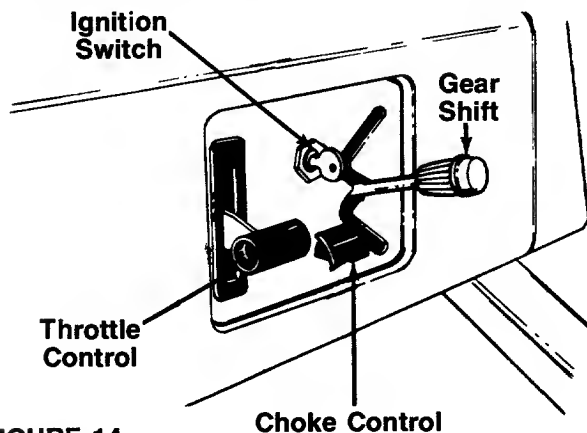

FIGURE 14.
The throttle control is used to regulate the engine speed. The engine should be operated at full throttle when operating the cutting deck. See figure 14.
The choke control is located on the console and is operated manually. Details for the choke operation are covered in the separate engine manual packed with your unit. See figure 14.
The key must be turned to the START position to start the engine. After the engine is running, let the key return to the ON position. Turn the key to the OFF position to stop the engine. Remove the key when the rider is not in use. See figure 14.
The shift lever is located on the left hand side of the console and has three positions, FORWARD, NEUTRAL and REVERSE. See figure 14. The clutch-brake pedal must be depressed and the riding mower must not be moving when shifting gears. Do not force the shift lever. Release the clutch-brake pedal slightly to line up the shifting collar in the transmission. Then try to shift gears.
6. Turn the ignition key to the START position. As soon as the engine starts, let the key return to the ON position. See figure 14.